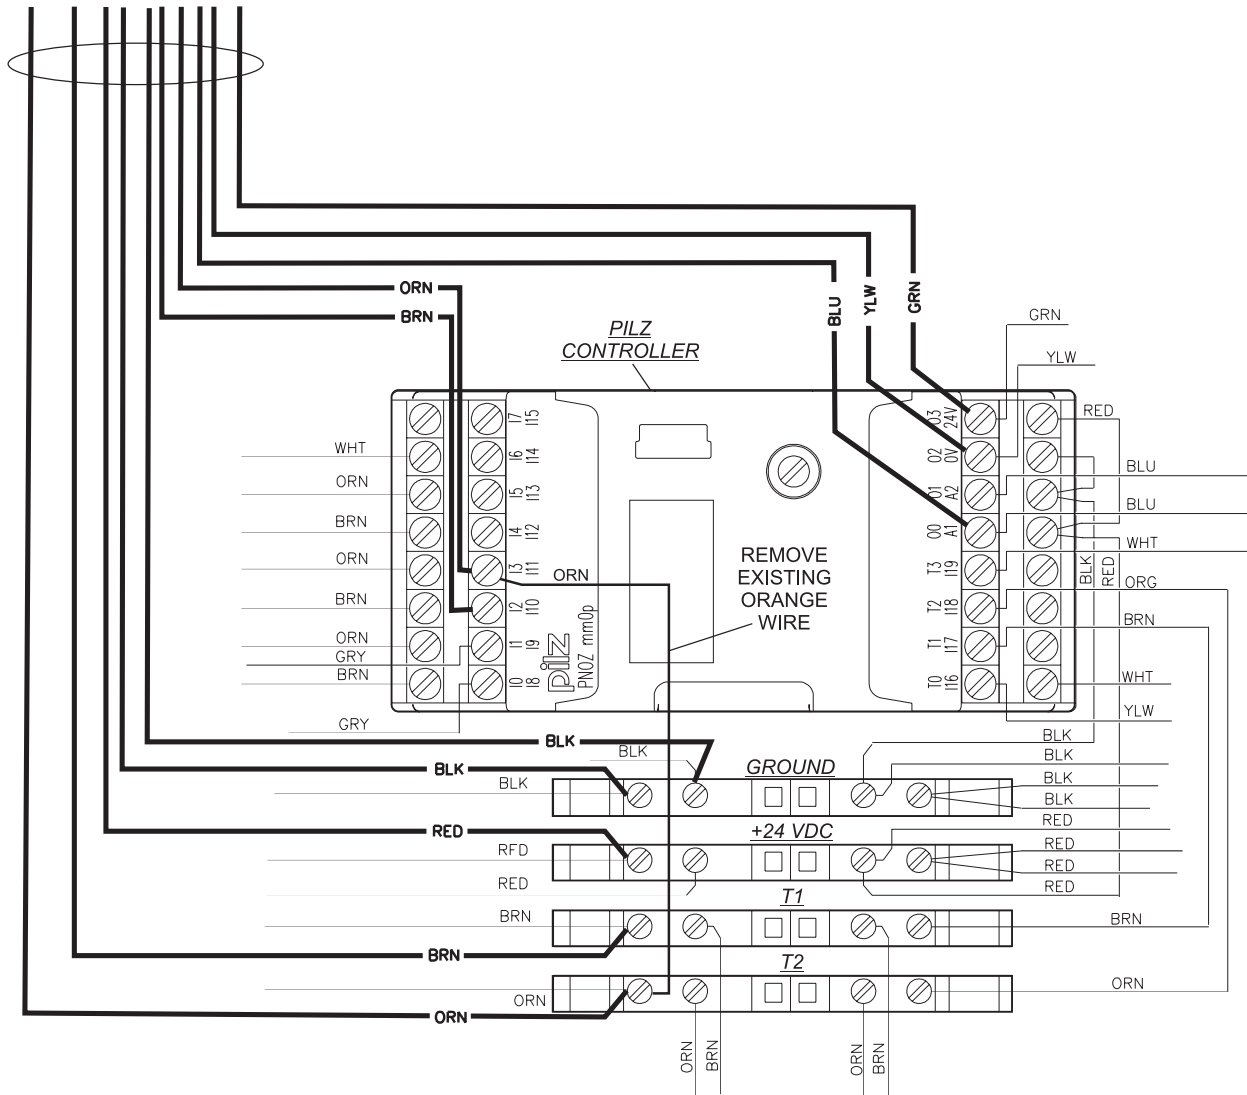

Figure 4
- Wire the hold-to-run cable assembly to safety controller. Refer to *Figure 4* and *Schematic of Hold-to-Run Cable Figure 1*.